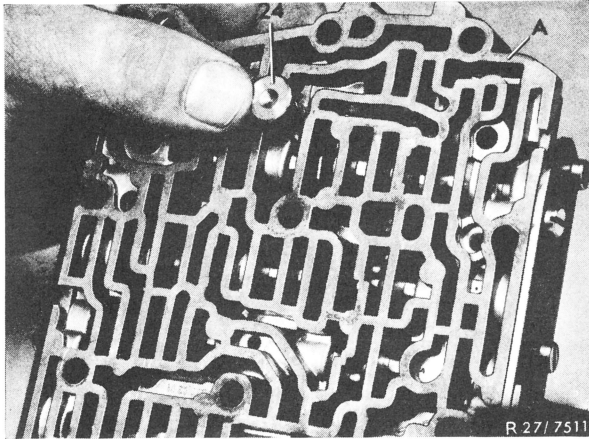

Fig. 8
**17** Insert check valve primary pump (24) with spring from below into shift valve housing bottom (Fig. 8).